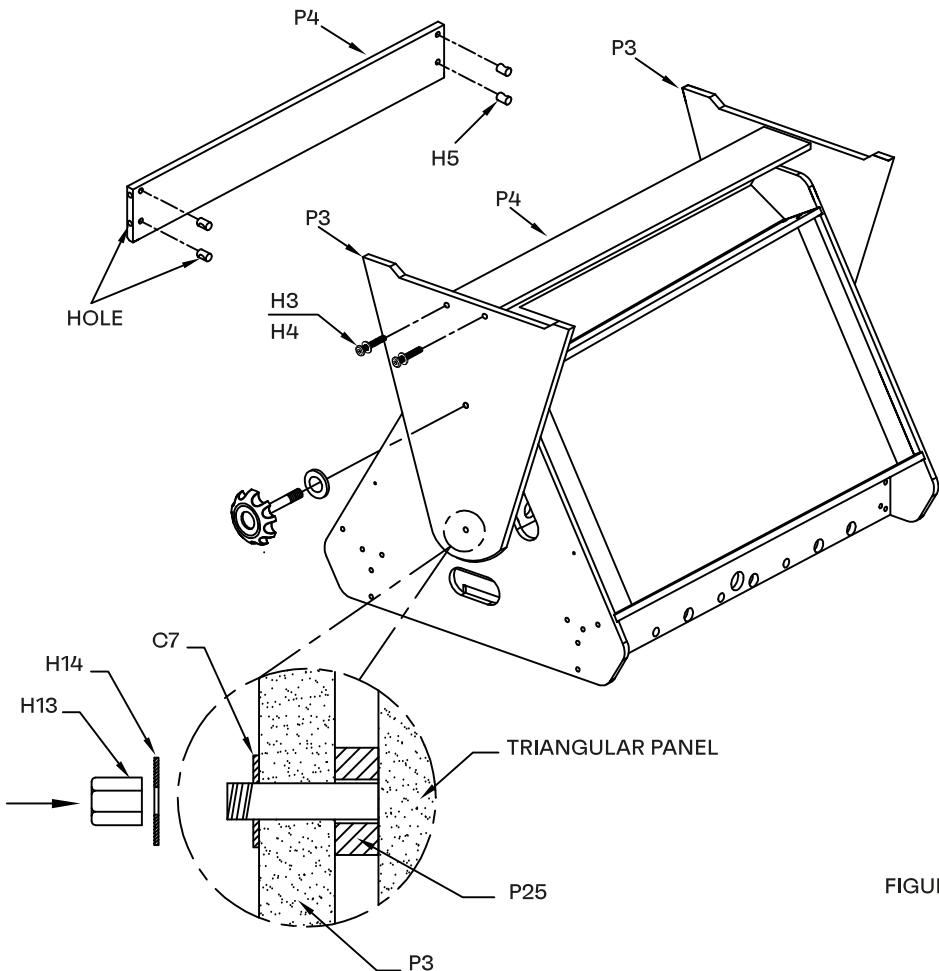

FIGURE 8
21. Attach the legs P3 to the triangular panel with P25, C7, H14, H13 as shown in figure 8.
24. Attach the handle bolt to the triangular panel as shown in figure 8.